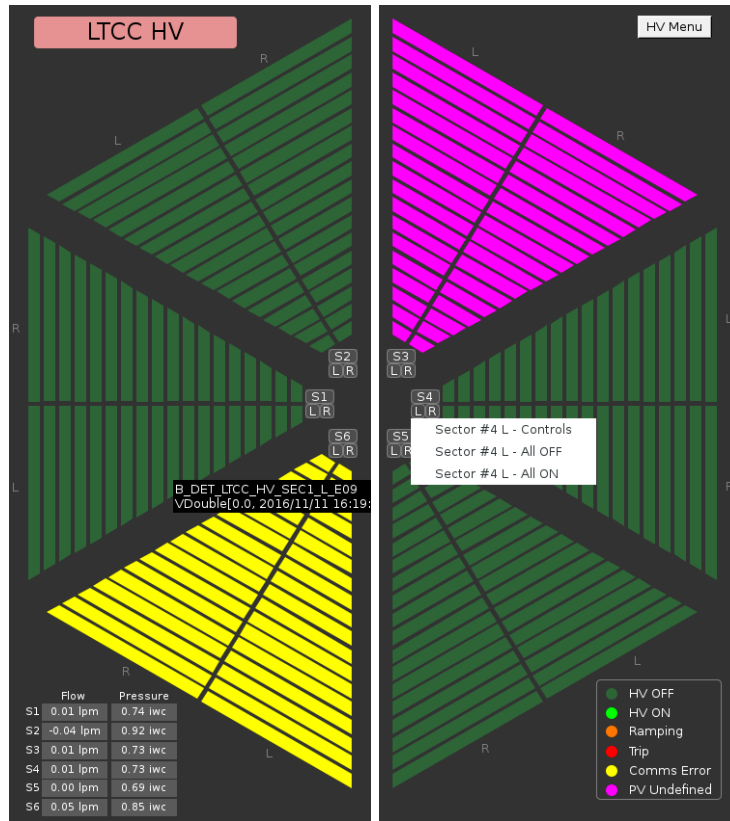
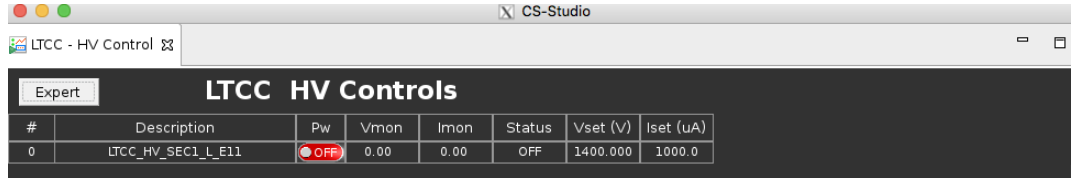

Figure 5: (Left) Hovering on a LTCC segment will display its index. (Right) Clicking on the L button brings up options for all PMTs on the left of that sector.
Figure 6: LTCC HV display and control interface for single channel parameters..
3. To turn the left or right HV for the PMTs in a given sector on or off. This is accomplished by clicking on either the L or the R buttons near the sector nose. This pops up a sub-menu with the relevant options as shown in Fig. 5 (right).
4. To turn individual PMTs on or off. This is accomplished by clicking on the segment representing the channel of interest. Hovering on the detector picture pops up the segment nomenclature, see Fig. 5 (left). Clicking on the segment brings up a control screen for the channel of interest as shown in Fig. 6. Clicking on the “Pw” button toggles the channel HV on and off.